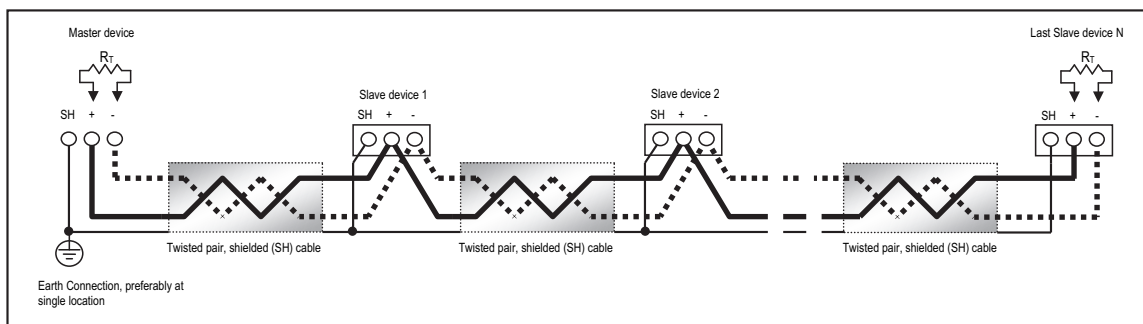

Figure 5.5: RS485 Daisy Chain Connection
- Connect shield to RS485 client and individual devices as shown in Figure 5.5. You may also connect the shield to earth-ground at one point.
Figure 5.5 shows a representation of an RS485 Daisy Chain connection. Refer to Section 5.1.2.1 for details on RS485 connection for the Unicom 2500.